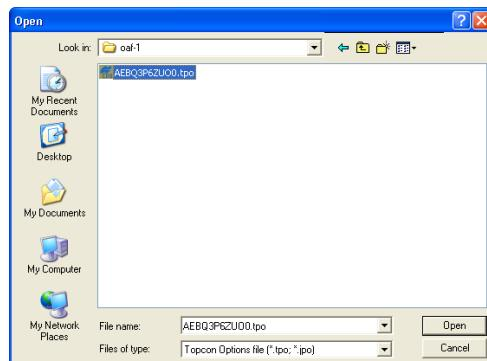

Figure 2-54. Select OAF to Upload
3. On the **Open** dialog box, navigate to and select the OAF file for this TPS receiver, then click **Open**. The new receiver option will load onto the receiver and the **Option Manager** table will update (Figure 2-54 on page 2-33).